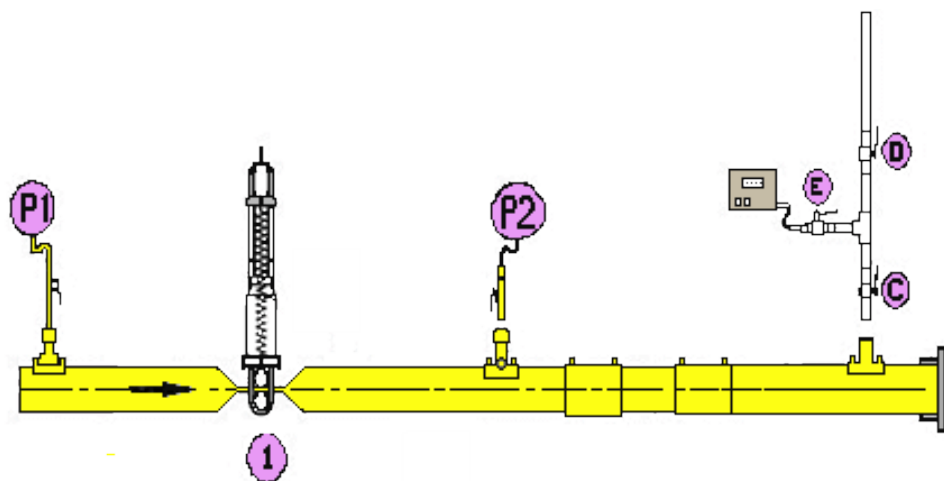

Figure 98- Commissioning by Release of Single Squeeze Off
2. Fit purge vent pipe(s) as shown in Figure 98.